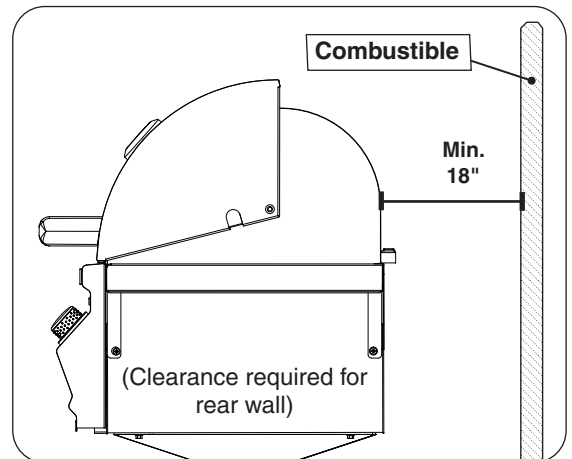

Fig. 9-3 Clearance 'B' Diagram
- The unit must have a minimum clearance of 18" from the combustible rear wall (see Fig. 9-3).